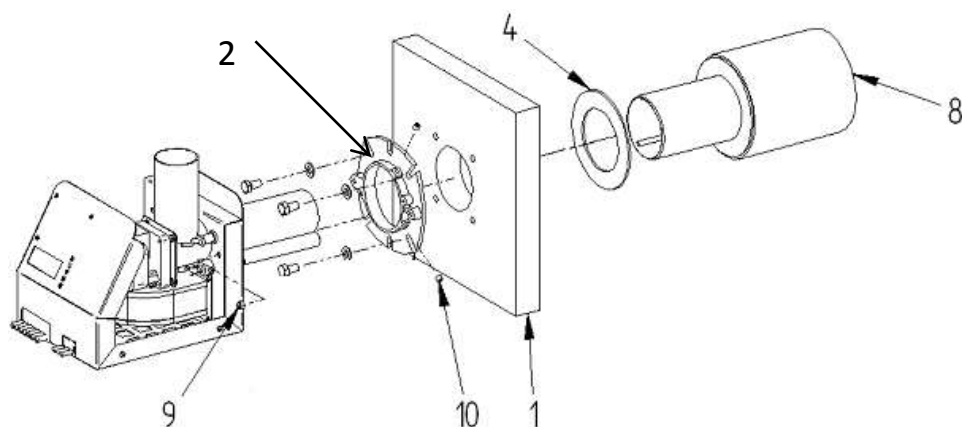

Figure 9
3. Fix the flange (2) to boiler's door (1). (Figure 9). Make sure that opening of flange and the opening of the boiler's door are aligned.
4. Fix the burning chamber (8) to boiler's door (1). For that you need to put a ceramic seal (4) on the narrower side of the burning chamber and then put the chamber through the door of the boiler (1) in a way that the rearward wall of the burning chamber would lean on the door of the boiler. Fixate the burning chamber (8) with two grub screws (10) to the flange.